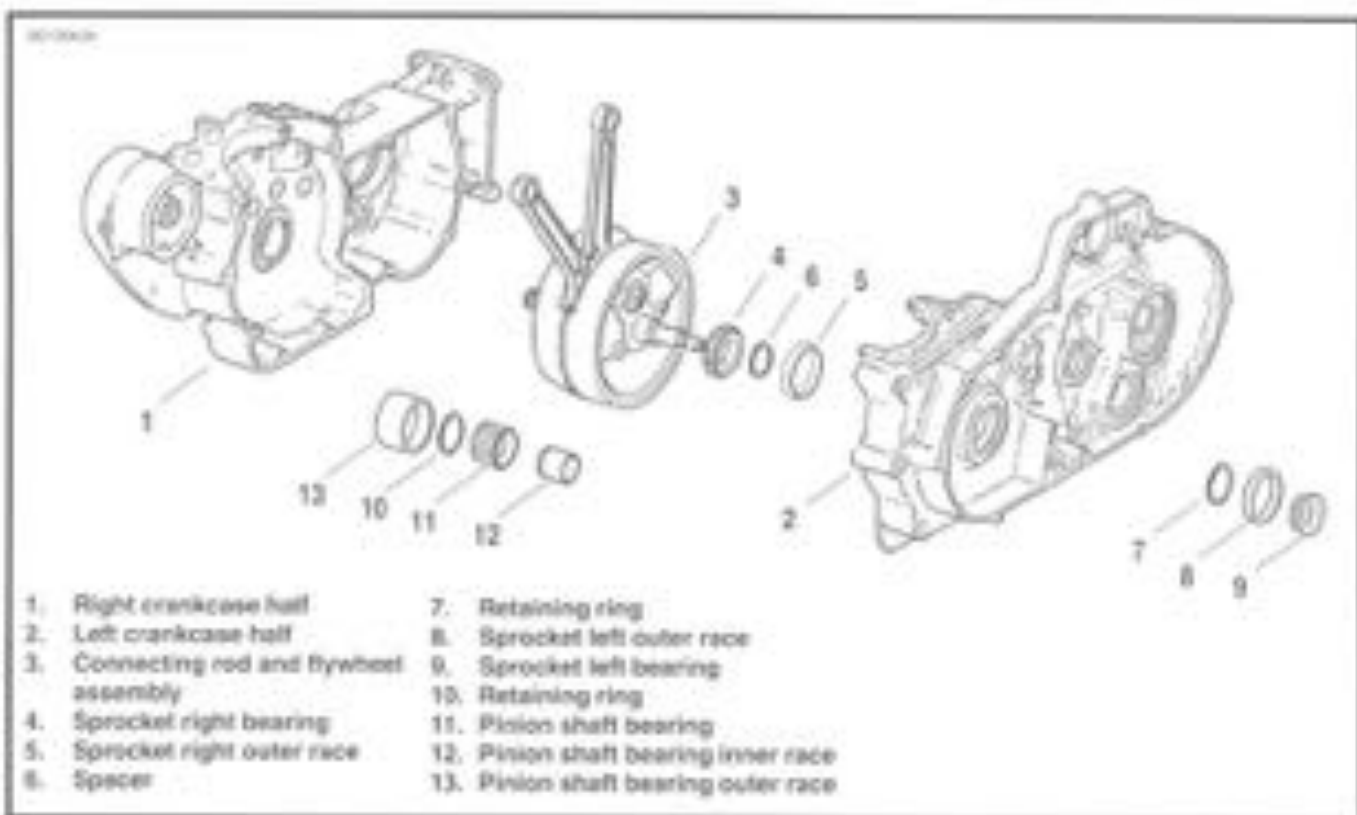

Figure 3-76. Crankcase and Flywheel Assembly
See Figure 3-76. If it is necessary to remove either the pinion shaft bearing (11) or sprocket shaft bearing (4 and 5), proceed as follows:
10. Pinion bearing (11) will remain on pinion shaft. Remove retaining ring (10) and bearing (11) may be slipped off pinion shaft.
11. See Figure 3-76. Pull sprocket shaft bearing with WEDGE ATTACHMENT FOR CLAW PULLER (Part No. HD-95637-46) and TWO JAW PULLER (Part No. HD-97292-61) using bolts in place of jaws.
See Figure 3-76. Do not remove retaining ring (7); the crankcase can easily be damaged during the removal process. Removal of the retaining ring is not necessary for the removal or installation of the outer bearing races.
See Figure 3-76. A pressed-in bushing in the right crankcase half is the outer race (13). The inner race (12) is pressed on the pinion shaft.